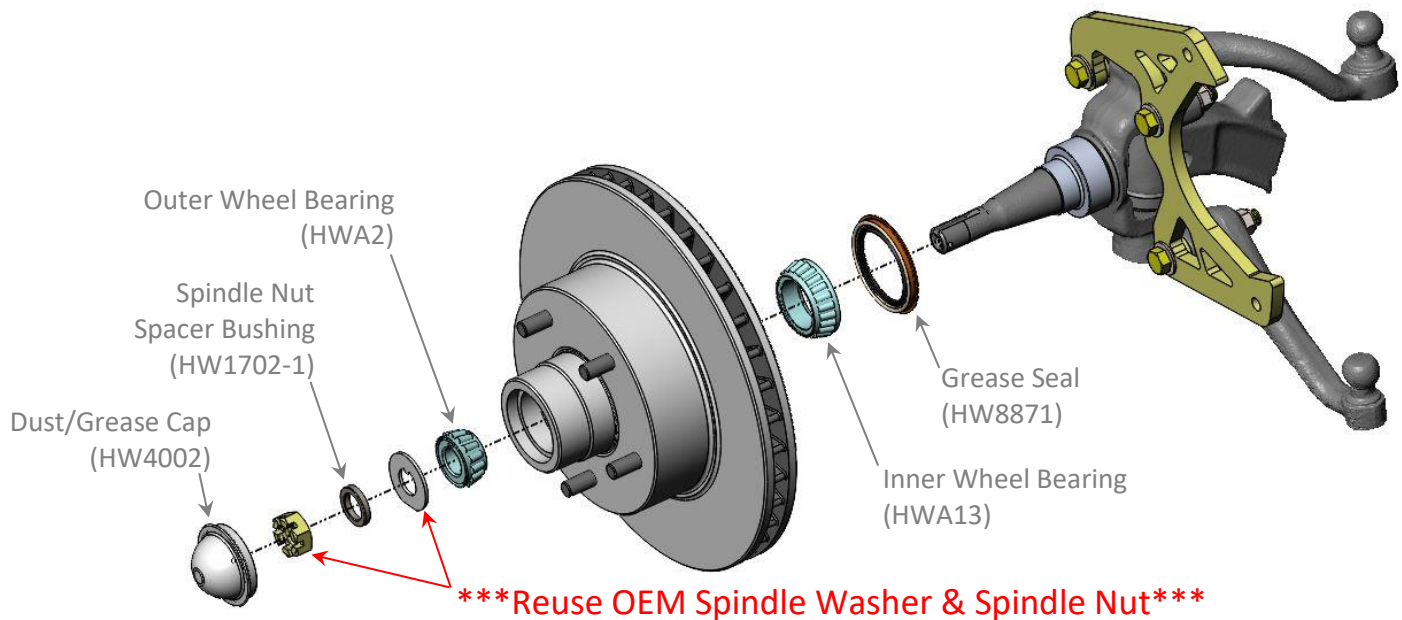
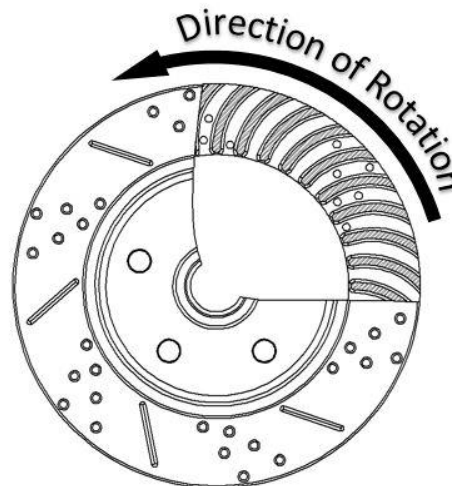

Figure 5a – Component Location (Driver Side Shown)
Figure 5b – Rotor Orientation
8. Slide the rotor onto the spindle. The inner wheel bearing and grease seal should be installed at this point. With the rotor fully pushed onto the spindle, install the outer wheel bearing followed by the OEM washer and spindle nut. Due to dimension differences, we provide a Spindle Nut Spacer Bushing to help with aligning the cotter pin hole to the slots in the OEM spindle nut. When tightening the spindle nut, tighten to 5-10 ft/lbs. Loosen the nut and tighten again using the same 5-10 ft/lbs. Do this a couple of times spinning the rotor to fully seat the wheel bearings onto the spindle. Loosen the nut a final time and re-tighten to remove all play. Tighten approximately an additional 1/16th of a turn to give the appropriate pre-load and line up the cotter pin hole. Install the cotter pin to secure the nut followed by the grease cap. Figure 5a below shows the proper location of each component. **IMPORTANT:** If using slotted and drilled rotors, pay close attention to Figure 5b for proper rotor placement on the driver or passenger side.